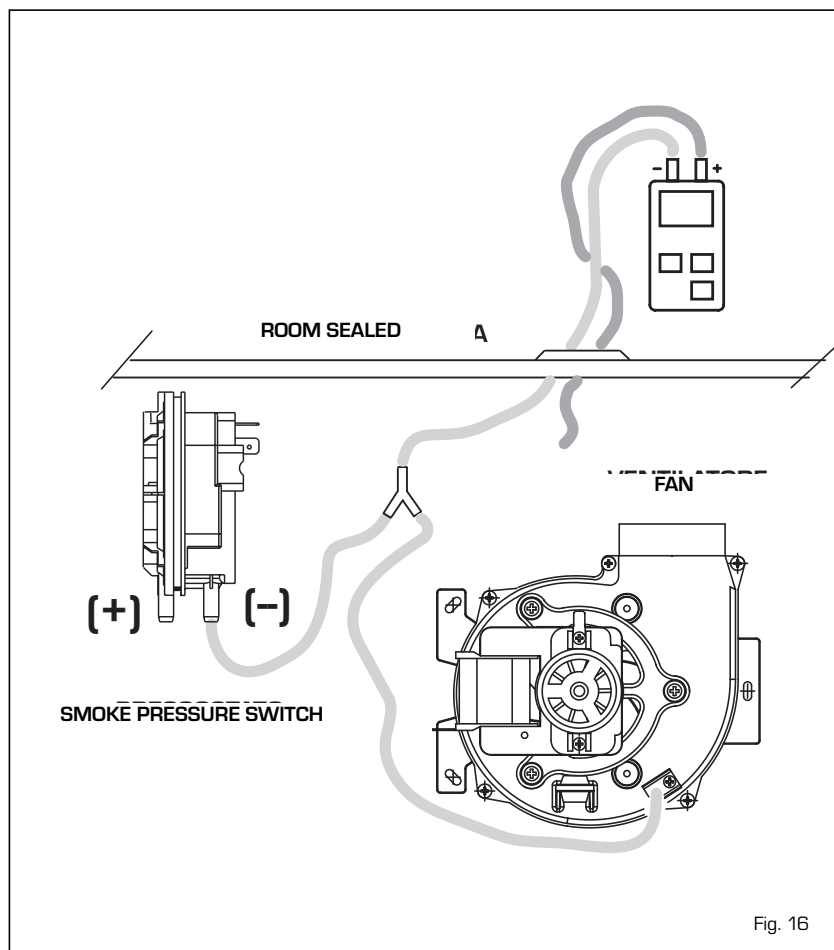

Fig. 16
3.5 "GG F 23 - 28 BF" SMOKE PRESSURE SWITCH (fig. 16)
is able to guarantee the boiler operation even with air intake and smoke outlet pipes at the maximum limit of the length allowed. The value of the signal to the pressure switch is measured by means of an instrument connected as shown in fig. 16.